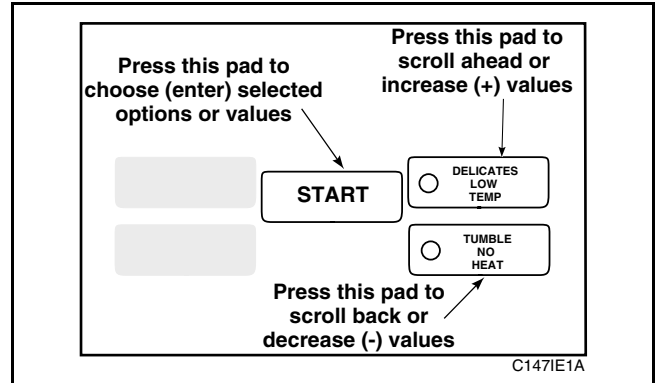

Figure 45
- Press the LOW TEMP (+) pad or the NO HEAT (-) pad to increase or decrease the current three-digit number displayed in the VFD to the desired three-digit number in Chart 3, *Figure 45*.